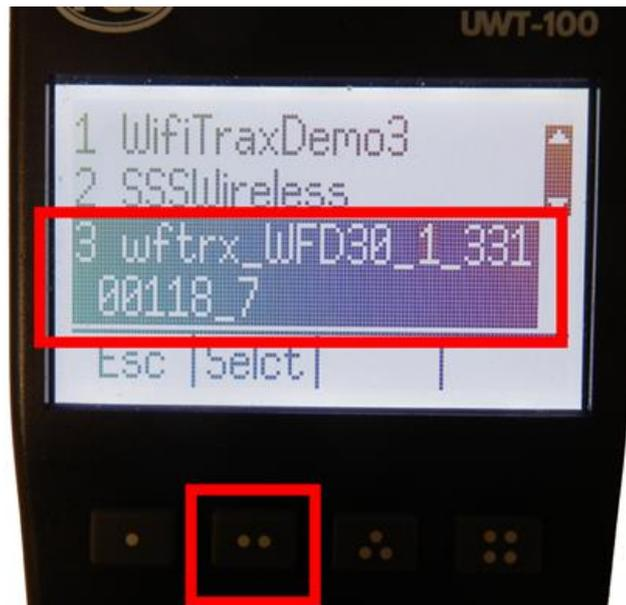

Figure 24 Select the Wi-Fi Network of the WFD-30
- (5) In the Found Networks list, identify the one which has the form wftrx_WFD30_1_XXXXXXXX_7, where XXXXXXXX is the serial number of your unit as Figure 24. Select that Network, using the Selct [..] key.